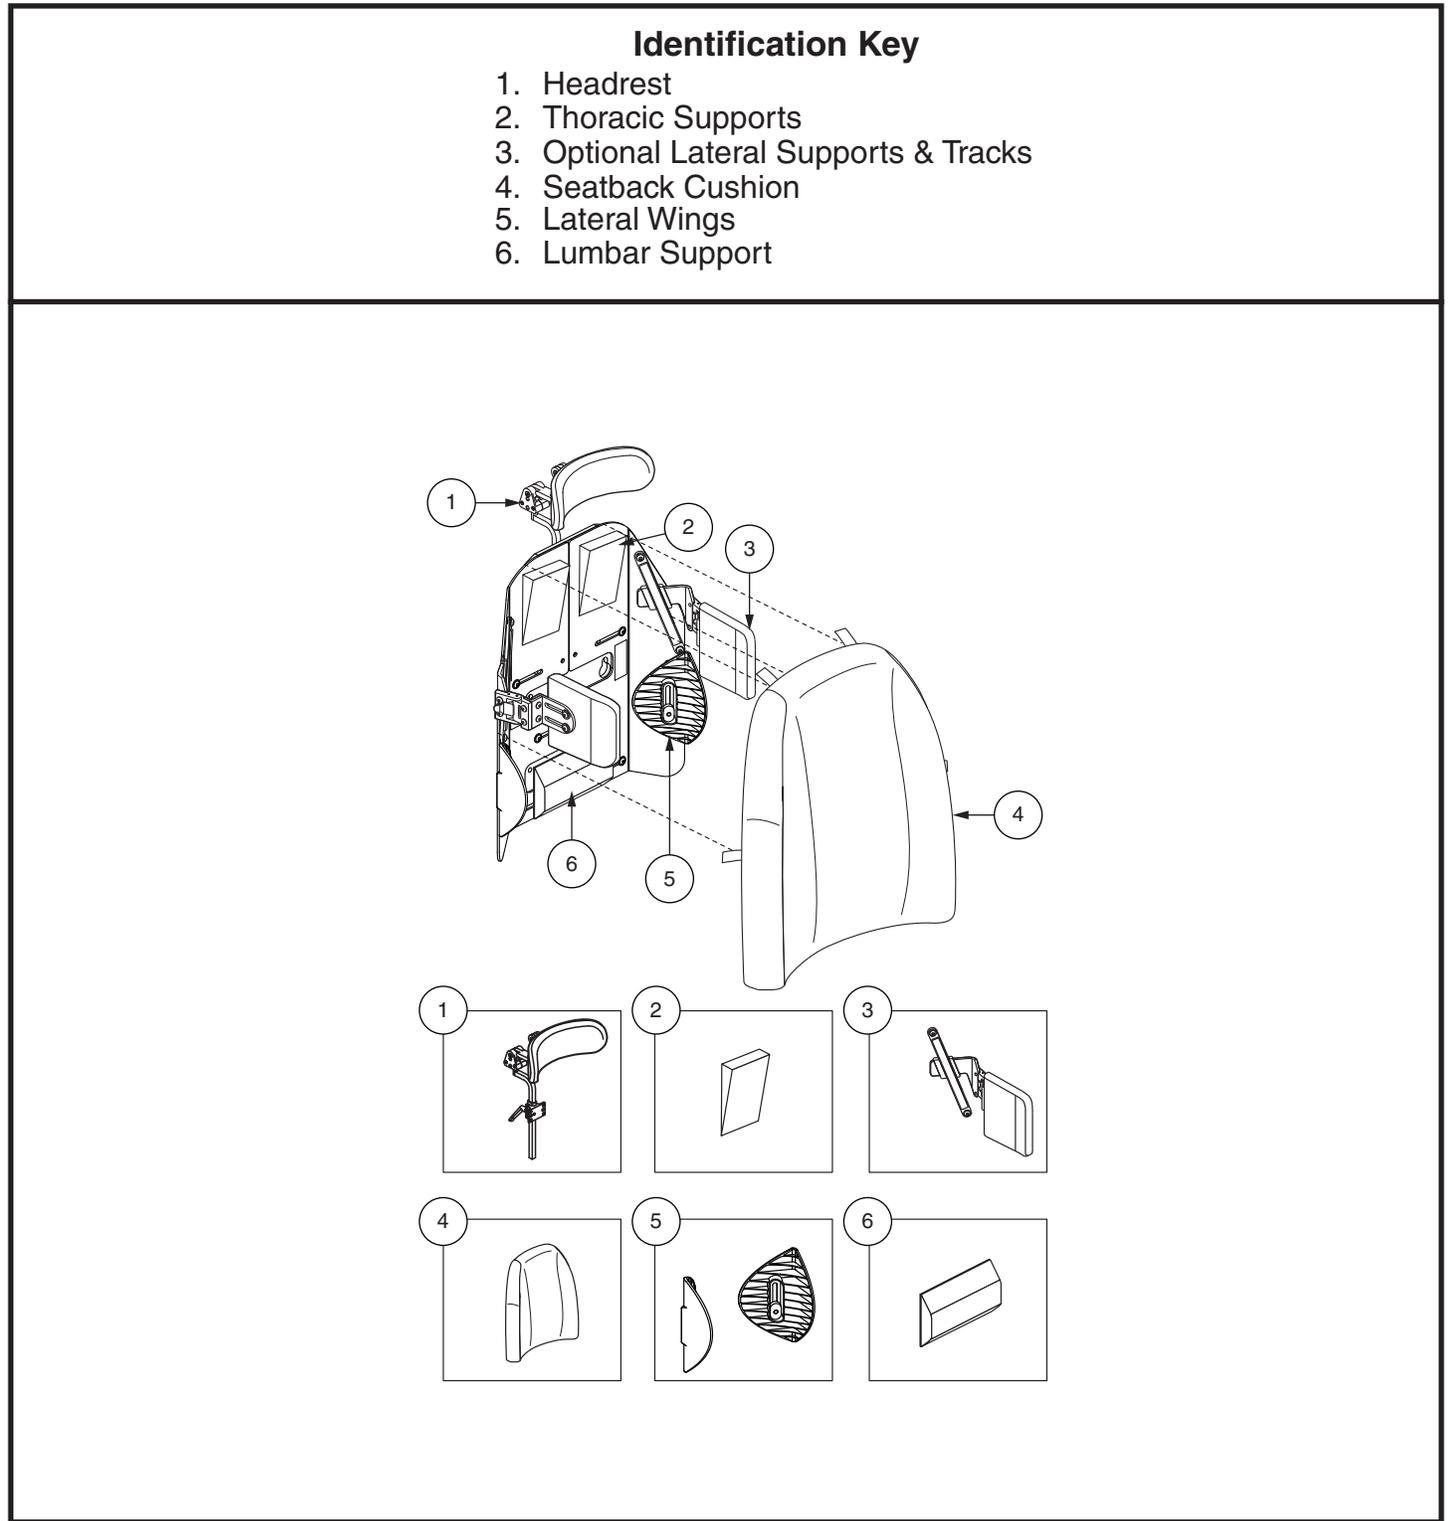

Figure 23. TRU-Comfort 2 Components
The TRU-Comfort 2 is a unique seatback that is available for user comfort and positioning needs. **Figure 23** provides information on the removable and adjustable TRU-Comfort 2 components. Use this diagram to familiarize yourself with the function and location of each component before using the TRU-Comfort 2.
1. Position the lumbar and thoracic support(s) as needed for user comfort and positioning flat side down and push onto the seatback. Position the lateral supports and lateral wings as needed and attach with hardware. **See figure 23.**
2. Position the seatback cushion so that the reusable hook and loop fastener tabs face the seatback. Place the cushion over any lumbar, lateral, and thoracic support(s) and then secure the cushion to the seatback using the reusable hook and loop fasteners. **See figure 23.**
1. Remove the seatback cushion from the seatback by detaching the reusable hook and loop fasteners that secure the cushion to the seatback and then pulling the cushion toward you. **See figure 23.**
6. Once the cover is dry, re-cover the seatback cushion, position the seatback cushion so that the reusable hook and loop fastener tabs face the seatback. Place the cushion over any lumbar, lateral, and thoracic support(s) and then secure the cushion to the seatback using the reusable hook and loop fasteners. **See figure 23.**